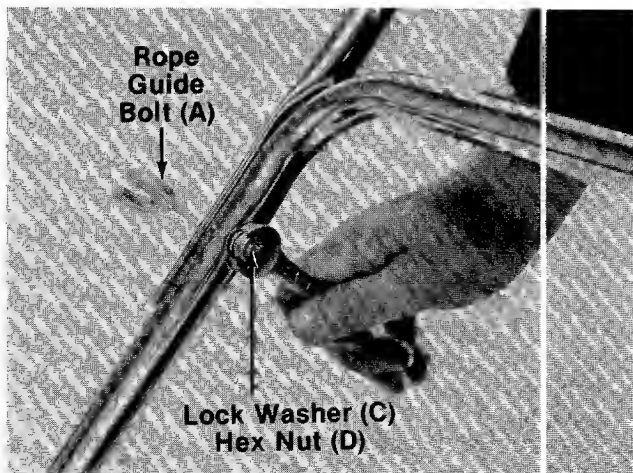

FIGURE 3.
4. Place the upper handle in position over the lower handle. The throttle control must be on the right hand side of the handle. Secure the right hand side of upper handle using the rope guide bolt (A), lock washer (C) and hex nut (D) as shown in figure 3.